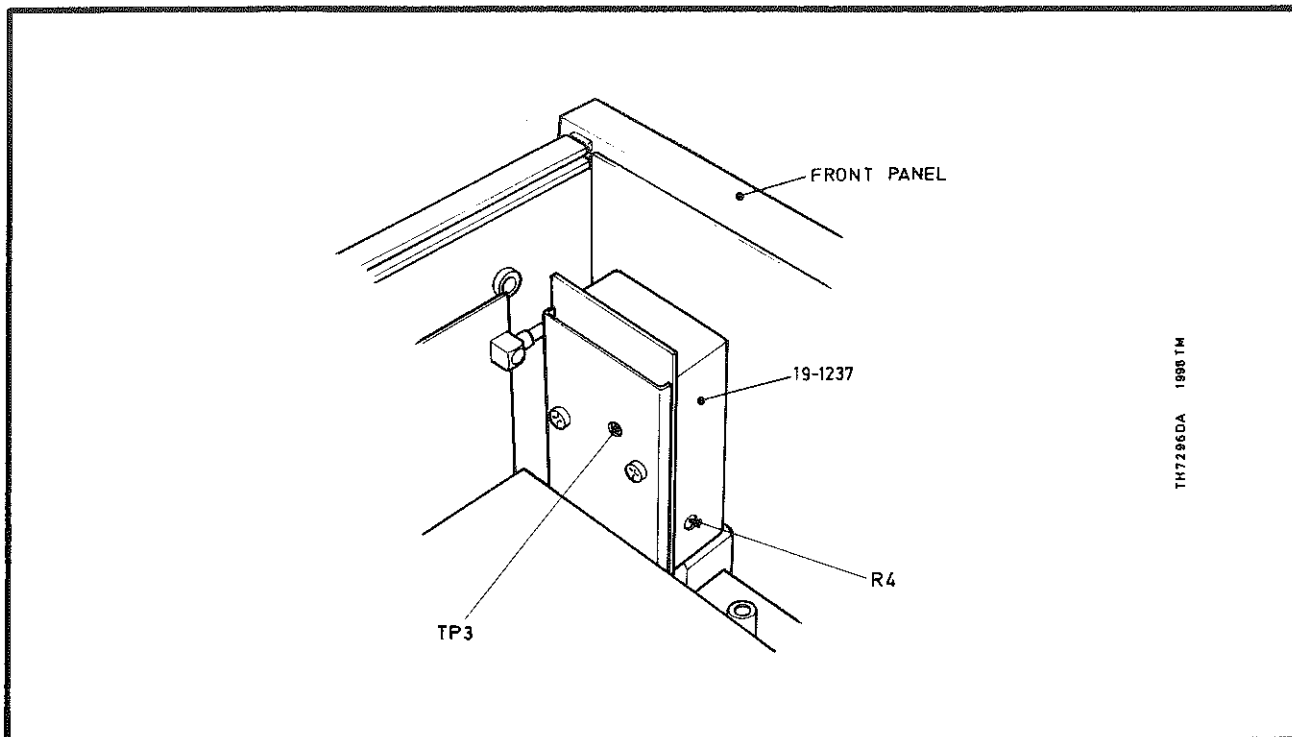

Fig 7.10 Location of TP3 and R4
- (5) Set the multimeter to measure voltages in the range +5 V to -5 V. With no signal at the A channel input, measure the voltage at TP3 on assembly 19-1237 with respect to 0 V. If necessary adjust R4 to give a voltage of $0\text{ V} \pm 50\text{ mV}$. The locations of TP3 and R4 are shown in Fig 7.10.